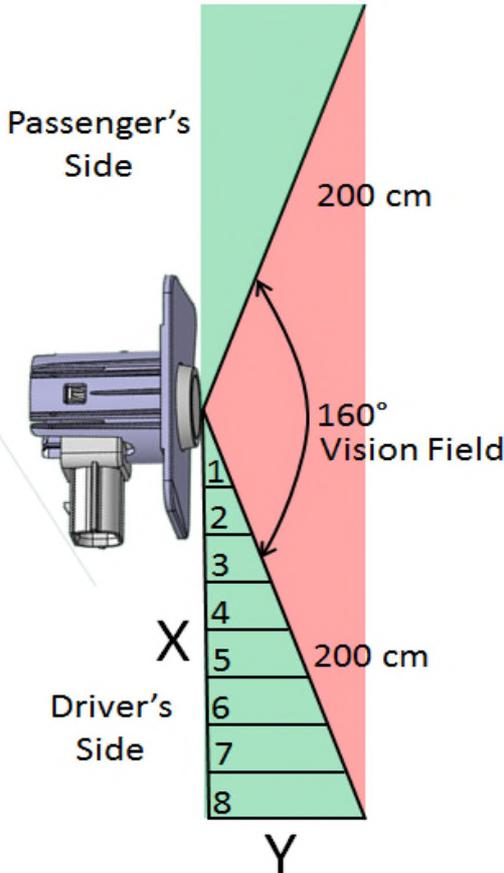

Figure 3: ParkSense's Horizontal Vision Field – Top View
**Figure 3:** ParkSense's Horizontal Vision Field – Top View along with **Table 3 & 4** show the sensor's vision field in red which must remain clear of obstructions. Whereas the green regions can have obstructions present that the ParkSense sensor will not detect. If an obstruction falls within the field of view, the sensors will continuously report the obstruction and the chime will sound.
Table 3. Dimensions for Figure 3